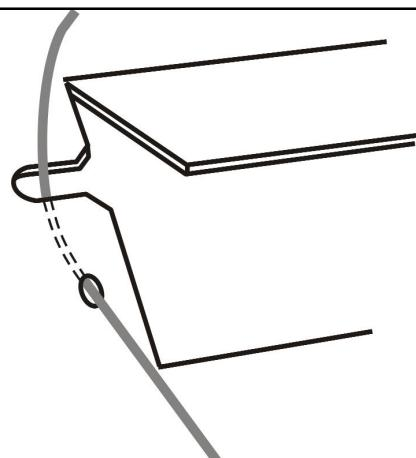

Figure 14. Upper cable retention
5. The rear of the hotbox has a slot and hole each side of the outlet opening. Assemble one end of the cable to the top of the fire by passing it through the small round hole and locking by positioning the cable in the adjacent slot (See figure 14). Give the cables a pull so that they grip.